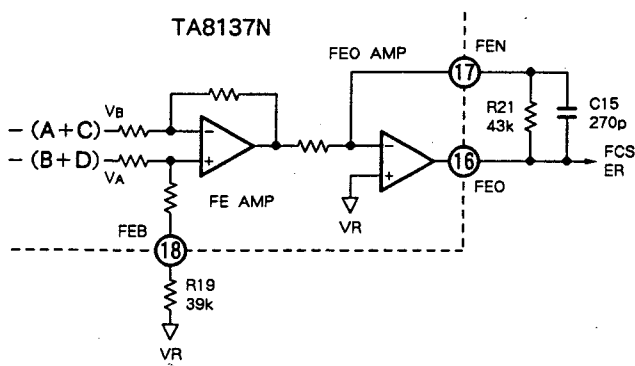

Fig. 1-5
The difference between the output of the RF I-V amplifier (1)  $V_A$  and that of the RF I-V amplifier (2)  $V_B$  is obtained, and the OEIC output signal (B + D) - (A + C) is supplied at the center of the reference voltage. (See Fig. 1-5.)